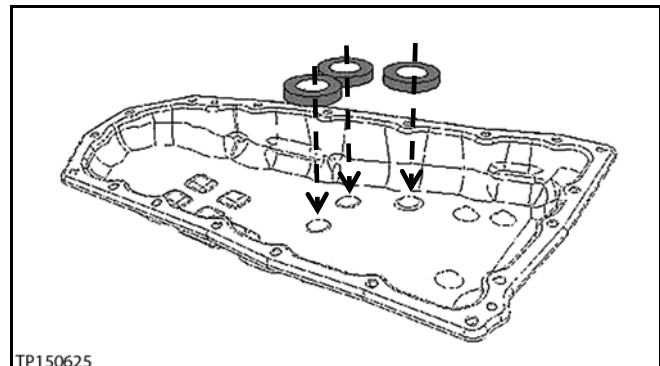

Figure 88
**NOTE:** Make sure the manual plate fits into the slot of the manual valve before applying torque to the nut (see Figure 88).
9. Install a new oil pan and new pan gasket (see Figure 88).
- Install the three magnets where shown in Figure 88.